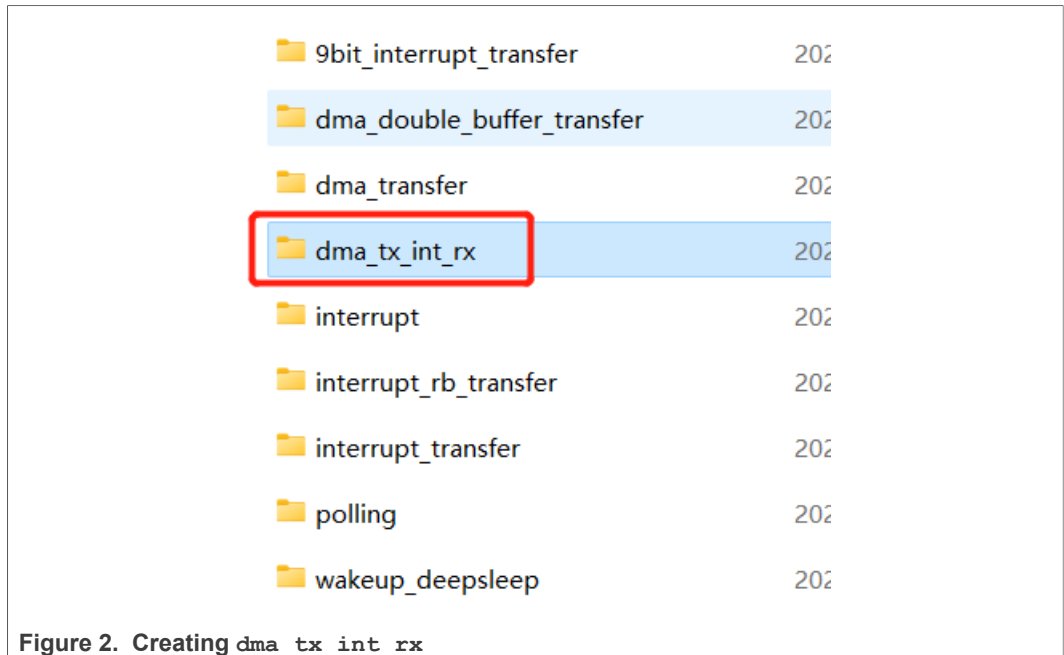

Figure 2. Creating dma_tx_int_rx
2. Copy the `dma_transfer` example to the same folder and rename it `dma_tx_int_rx`, as shown in Figure 2.